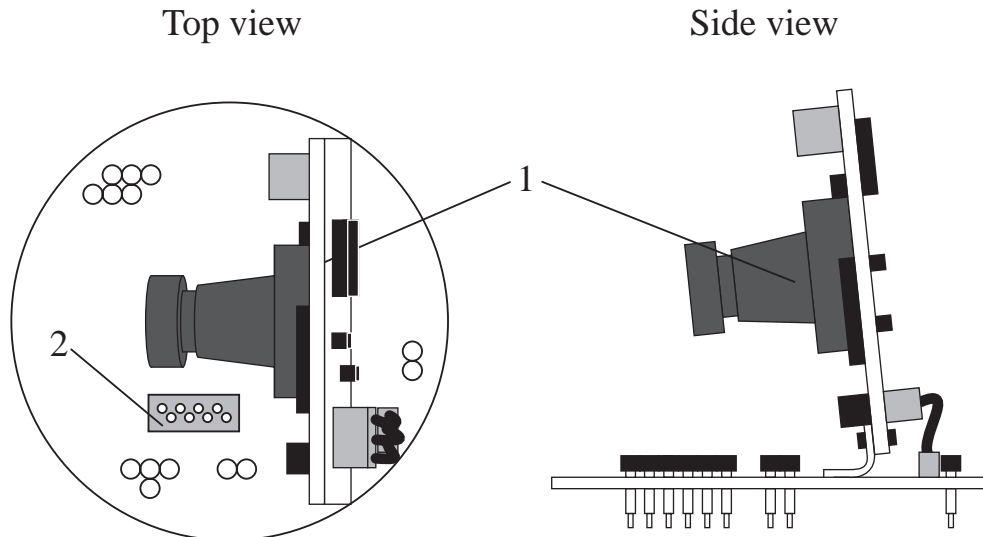

Figure 1: Overview of the turret layout.
1. Connector to be plugged on the K2D video module (point 2 of figure 1).